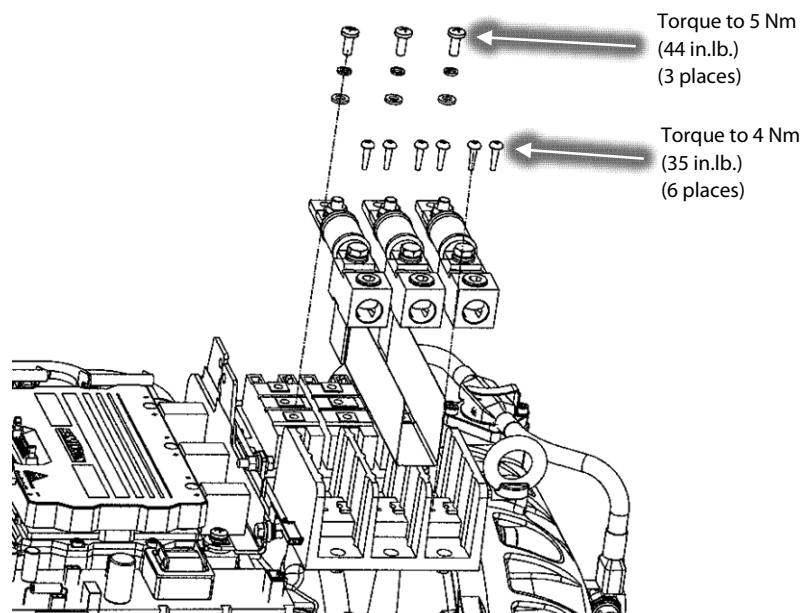

Figure 29 – Fuse Assembly Installation
27. Reinstall the Mylar in the middle of the Terminal Block. Refer to Figure 29 (Main Power Mylar Insertion).